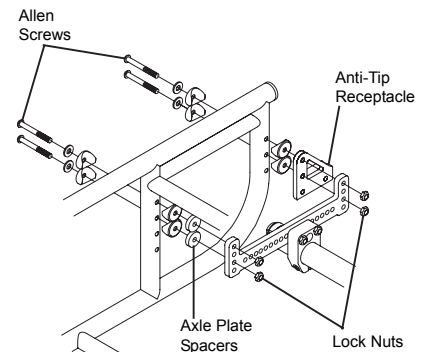

Figure 129
2. Remove the two Allen Screws that secure the adjustable axle plate at the rear of the frame. Carefully note the placement of the plate and the order of the various washers and nuts (and, if applicable, stroller handle and/or armrest receivers). See Figure 129.
3. Install the anti-tip receptacle as shown in Figure 129.